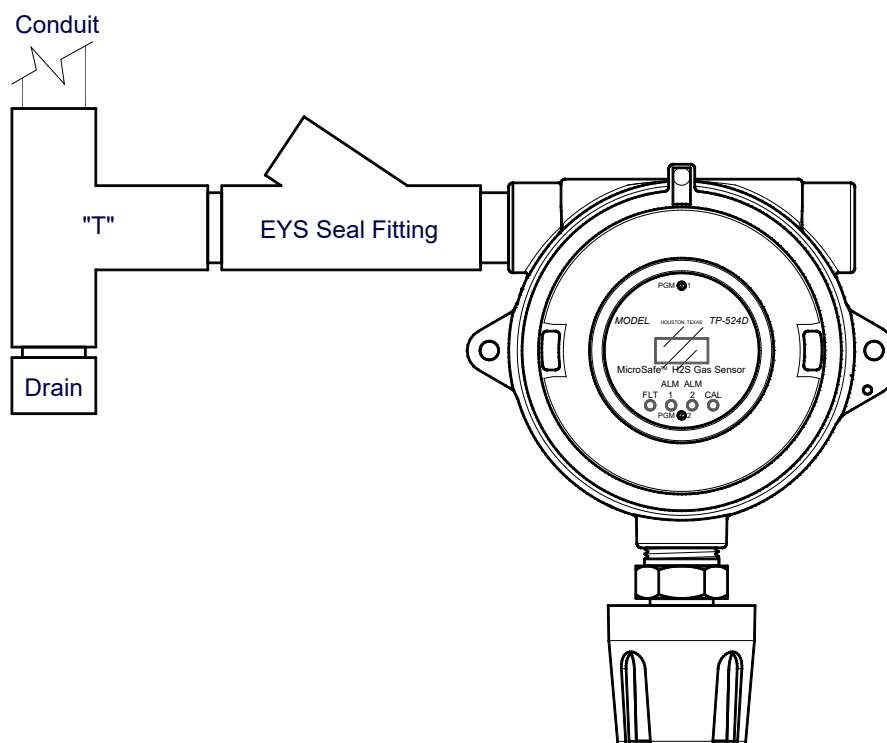
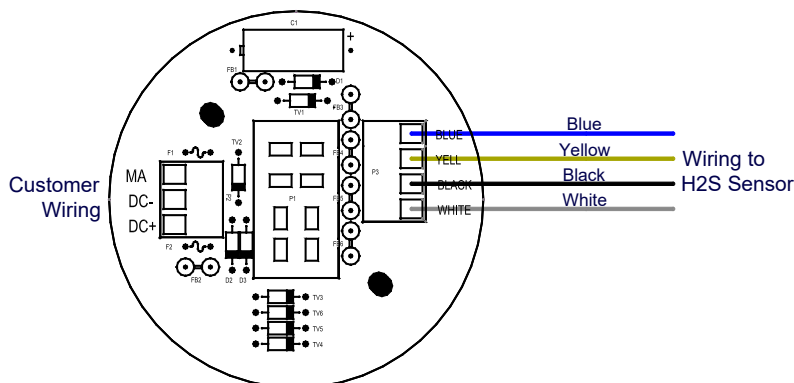

Figure 8 Typical Installation
Figure 9 Sensor Connector PCB
NOTE: In all installations the gas sensor should point straight down (refer to Figure 8). Improper sensor orientation may result in false readings and permanent sensor damage.
Proper electrical installation of the gas sensor is critical for conformance to Electrical Codes and to avoid damage due to water leakage. Refer to Figure 8 and Figure 9 for proper electrical installation.
NOTE: If a conduit run exits the secondary port, repeat the installation technique shown in Figure 8.
In Figure 8, the drain allows H₂O condensation inside the conduit run to safely drain away from the sensor assembly. The electrical seal fitting is required to meet the National Electrical Code per NEC Article 500-3d (or Canadian Electrical Code Handbook Part 1 Section 18-154). Requirements for locations of electrical seals
NOTE: For products utilizing the aluminum junction box option, the conduit seal shall be placed at the entry to the junction box (see Figure 8 as an example). For products utilizing the stainless steel junction box option, the conduit seal shall be placed within 18" of the enclosure. Crouse Hinds type EYS2, EYD2 or equivalent are suitable for this purpose.
- b) Observing correct polarity, terminate the 3-conductor 4-20mA field wiring (DC+, DC-, and MA) to the sensor assembly wiring in accordance with the detail shown in Figure 9.